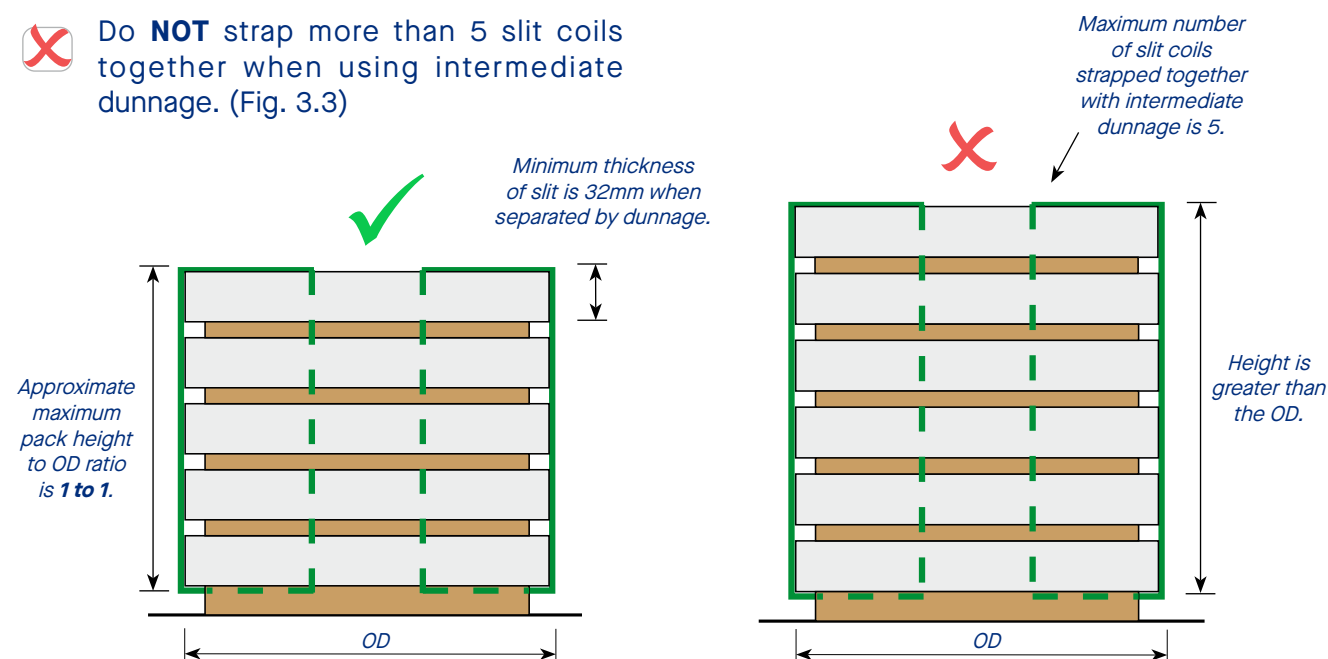

Fig 3.3: Maximum of 5 slit coils with a maximum pack height to outside diameter ratio of 1 to 1 can be strapped together with intermediate dunnage.
- ✗ Do **NOT** strap more than 5 slit coils together when using intermediate dunnage. (Fig. 3.3)